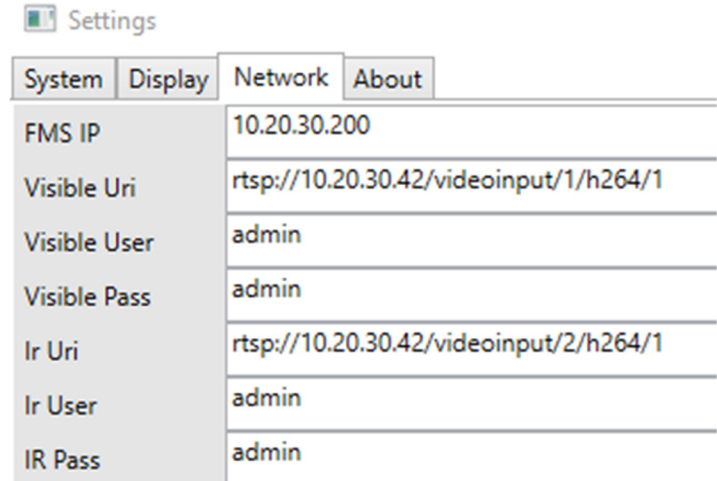

Figure 1
- In the Settings/Network Tab of the GUI: Set as in Figure 1.